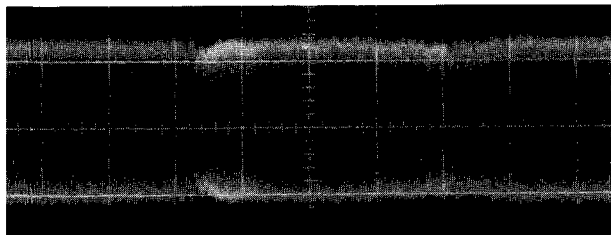

Fig. M35. Adjustment of Envelope Output-(3)
5. The scope display with P2 and P3 adjusted correctly should be as shown in Fig. M35.